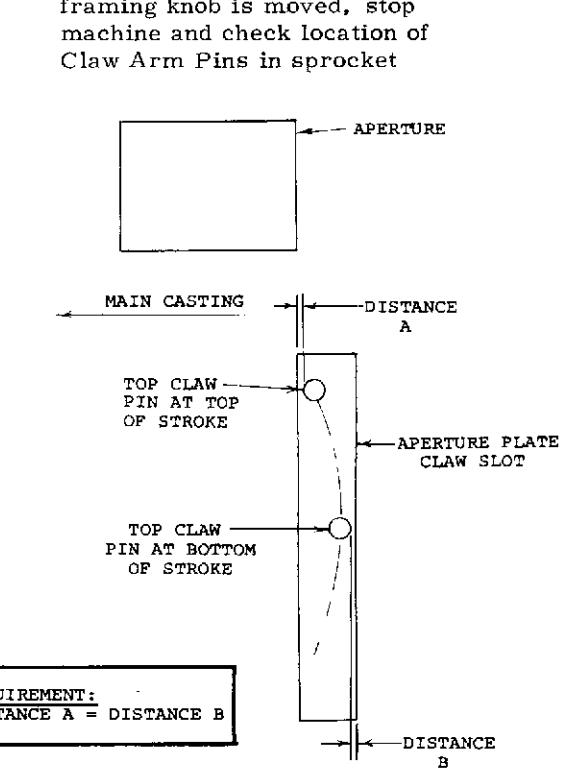
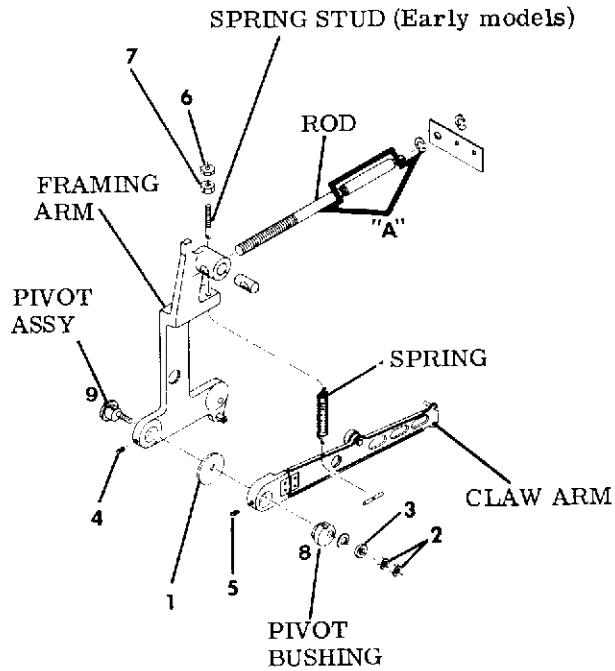
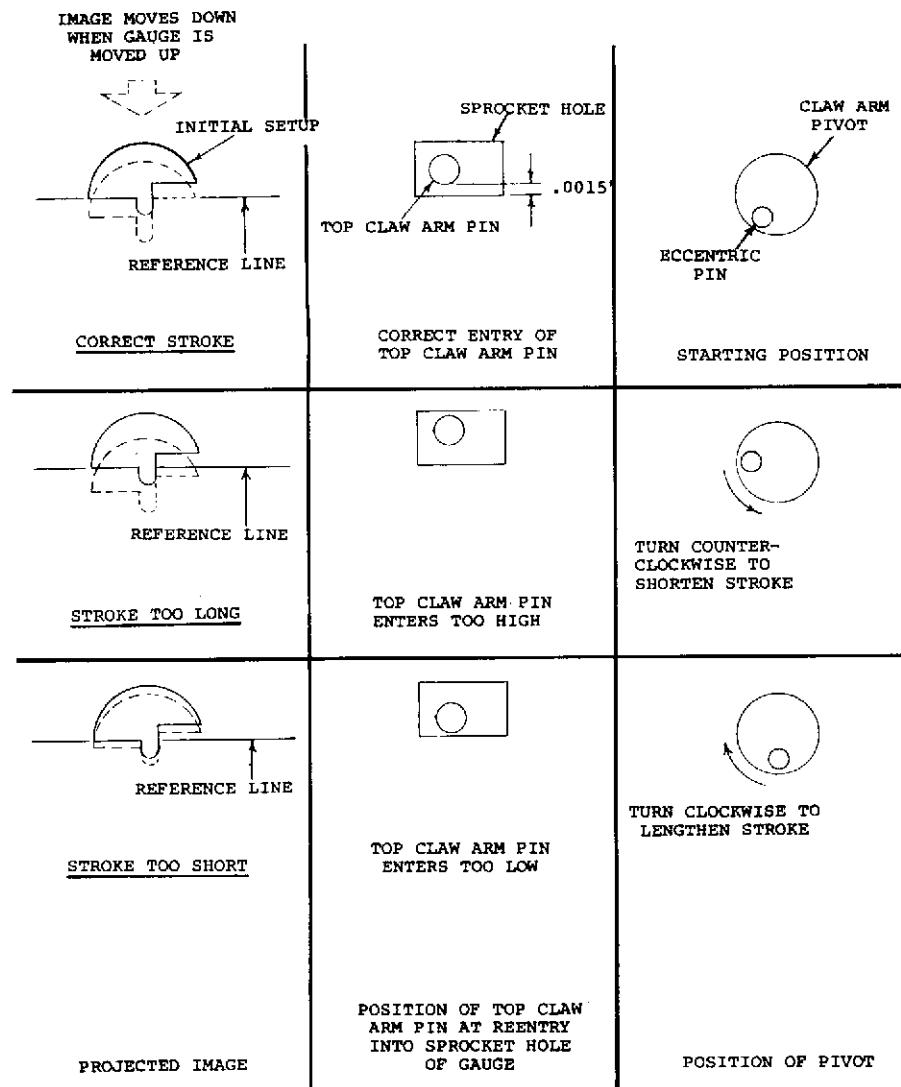

Figure 4-7. SIDE CLEARANCE
Figure 4-8. CLAW ARM
Figure 4-11. CLAW PULL DOWN STROKE ADJUSTMENT
Before attempting any adjustments, manually rotate the inching knob to make sure the Claw Arm Pins do not strike the sides of the Aperture Plate Claw Slot. At the top of the Claw Arm Stroke, the Top Claw Arm Pin will be nearer the inside edge of the Aperture Plate Slot (Figure 4-7). At the bottom of its travel, this Pin will be nearer to the outside edge of the Aperture Plate Slot. Loosen Screw (5) and adjust Bushing (8) (Figure 4-8) so these two distances are equal. (Removing Lamphouse Cover and viewing Pins from behind the Aperture Plate aids in this adjustment.)
- m. Tighten Screws (1) and (2) to 140-inch/ounces of torque (very tight) and replace Screw (3) and tighten securely.
- 2. Claw Pull Down Stroke and Side Clearance (Figures 4-7 / 4-11) These Two Adjustments are interdependent and must be adjusted at the same time. If either one is adjusted, the other must be checked and adjusted as necessary until requirements for both can be met.
A good starting position for the Pivot (9) (Figure 4-8) places its Eccentric Pin at about 7 O'Clock when viewed from front of Projector (See Figure 4-11). The notch in Bushing (8) (Figure 4-8) should be slightly below the notch in Pivot (9) so an imaginary line drawn across the top of Bushing notch lines up with bottom of Pivot notch.
holes of film. When Framing is correct, the Top Claw Arm Pin should be the same distance from the inside edge of the sprocket hole at the top of its stroke as it is from the outside edge of the sprocket hole at the bottom of its stroke (Figure 4-7). Loosen Screw (5) and adjust Bushing (8) (Figure 4-8) so these two distances are equal. Remove film from Projector after proper Framing and Side Clearance are established.
h. Adjust by placing Shuttle Cam Adjusting Tool (ST-5884) on Claw Arm Pivot (9) (Figure 4-8), loosening Screws (4) and (5) and rotating Pivot (9) and Bushing (8) the same amount in the same direction simultaneously. Turn counterclockwise (as viewed from front of projector) to shorten stroke and clockwise to lengthen stroke. (Figure 4-11)
The Top Claw Arm Pin should be the same distance from the inside edge of the Gauge sprocket hole at the top of its stroke as it is from the outside edge of the Gauge sprocket hole at the bottom of its stroke (Figure 4-7).
Loosen Screw (5) and adjust Bushing (8) (Figure 4-8) So these two distances are equal.
(Figures 4-7 thru 4-11)
A good starting position for the Pivot (9) (Figure 8) places its Eccentric Pin at about 7 O'Clock when viewed from front of Projector (See Figure 4-11). The notch
in Bushing (8) (Fig. 4-8) should be slightly below the notch in Pivot (9) so an imaginary line drawn across the top of Bushing notch lines up with bottom of Pivot notch.
Before attempting any adjustments, manually rotate the inching knob to make sure the Claw Arm Pins do not strike the sides of the Aperture Plate Claw Slot. At the top of the Claw Arm Stroke the Top Claw Arm Pin will be nearer the inside edge of the Aperture Plate Slot (Figure 4-7). At the bottom of its travel, this Pin will be nearer to the outside edge of the Aperture Plate Slot. Loosen Screw (5) and adjust Bushing (8) (Figure 4-8) so these two Distances are equal. (Removing Lamphouse Cover and viewing Pins from behind the Aperture Plate aids in this adjustment.)
- a. Thread an old film in the Projector (do not use a good film for this adjustment) and adjust Framing Knob to eliminate any frame lines at top or bottom of projected image with the Projector running in Forward. If excessive noise results when framing knob is moved, stop machine and check location of Claw Arm Pins in sprocket holes of film. When framing is correct, the Top Claw Arm Pin should be the same distance from the inside edge of the sprocket hole at the top of its stroke as it is from the outside edge of the sprocket hole at the bottom of its stroke (Figure 4-7). Loosen Screw (5) and adjust Bushing (8) (Figure 4-8) so these two distances are equal. Remove film from Projector after proper Framing and Side Clearance are established.
- k. Adjust by placing Shuttle Cam Adjusting Tool (ST-5884) on Claw Arm Pivot (9) (Figure 4-8), loosen - ing Screws (4) and (5) and rotating Pivot (9) and Bushing (8) the same amount in the same direction simultaneously. Turn counter-clockwise (as viewed from front of projector) to shorten stroke
and clockwise to lengthen stroke. (Figure 4-11).
The Top Claw Arm Pin should be the same distance from the inside edge of the Gauge sprocket hole at the top of its stroke as it is from the outside edge of the Gauge sprocket hole at the bottom of its stroke (Figure 4-7). Loosen Screw (5) and adjust Bushing (8) (Figure 4-8) So these two distances are equal.